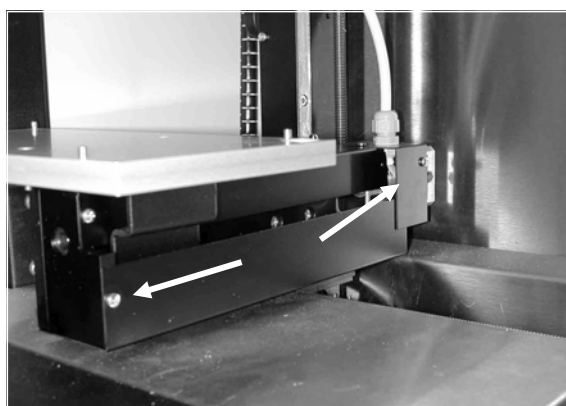

FIGURE C-14 Removing the Cover Plate of the Y-axis
- a) Remove the cover plate to get access to the adjustment screws (FIGURE C-14).